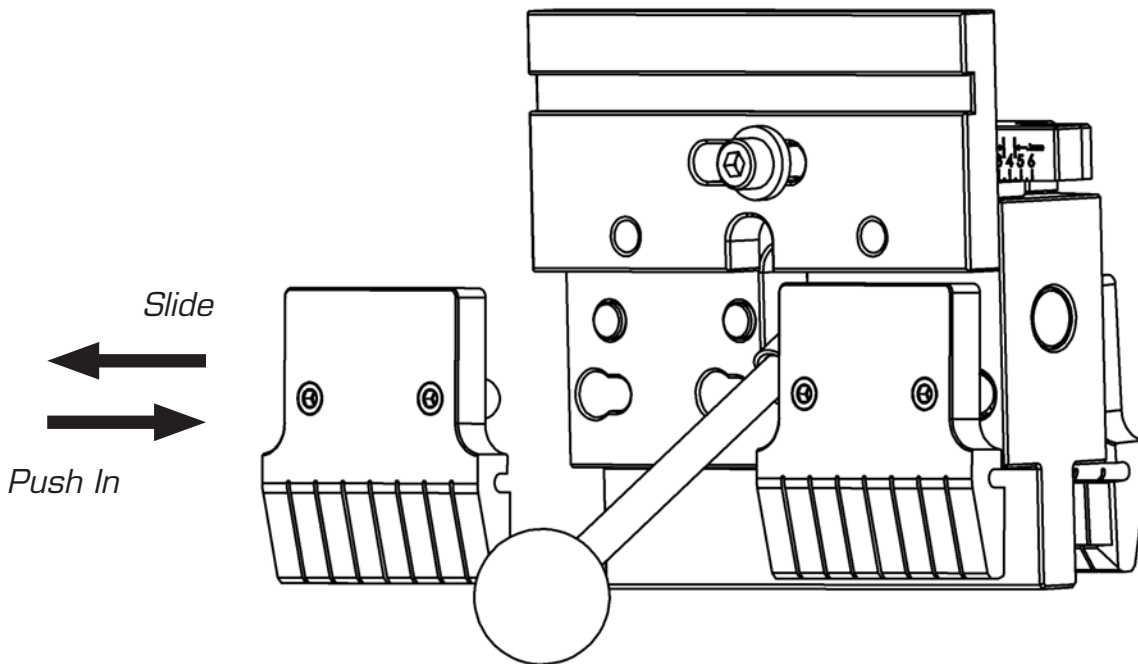

Fig. 2
1. To remove clamps, to create more clearance, or for the maintenance, pull the locking lever into the down position. Lever must be down and tooling must be removed. (Fig. 2)
2. Push firmly against the centre of the clamp to compress the clamp springs and slide to the outside. (Fig. 2)